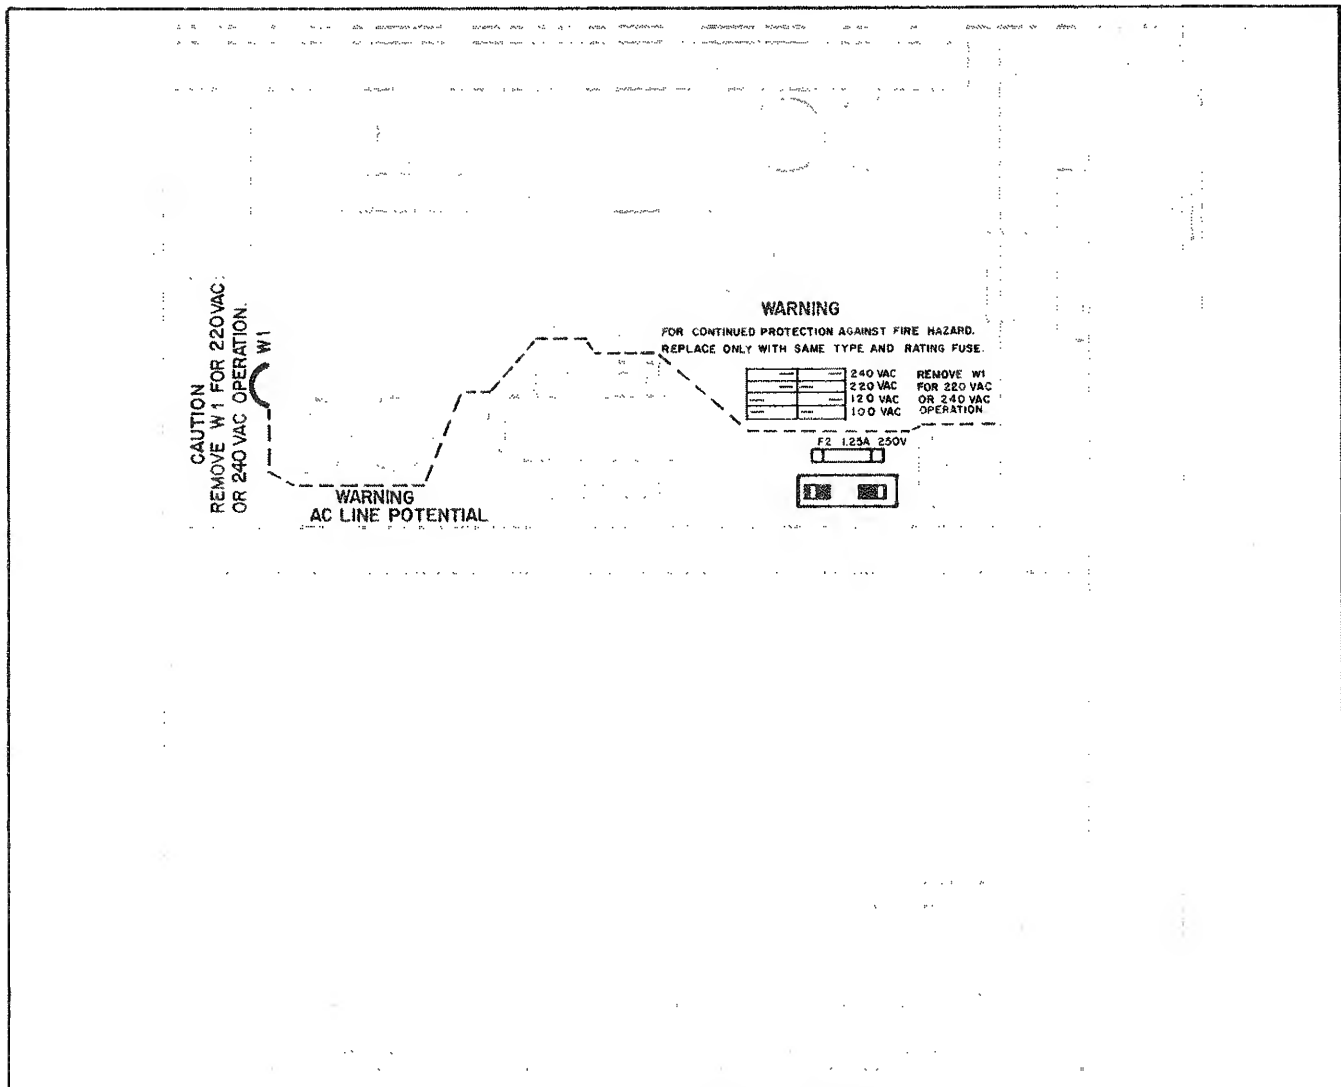

Figure 2-3. Line Voltage Selection Components
b. The line voltage select switch is located just to the right of center of the instrument (as viewed from front), about five inches behind front panel (see Figure 2-3). Use a small-blade screwdriver to set the two switch sections to match the pattern silkscreened on p.c. main board as shown in Figure 2-3. For example, to set switches for 120V operation (as
c. The line voltage jumper W1 is located about 2-1/2 inches in front of rear-panel terminal block (see Figure 2-3). (A dashed line is silkscreened on A3 board from vicinity of S2 to W1). Jumper must be soldered in place for 120V operation, and must be removed for 220V or 240V operation.